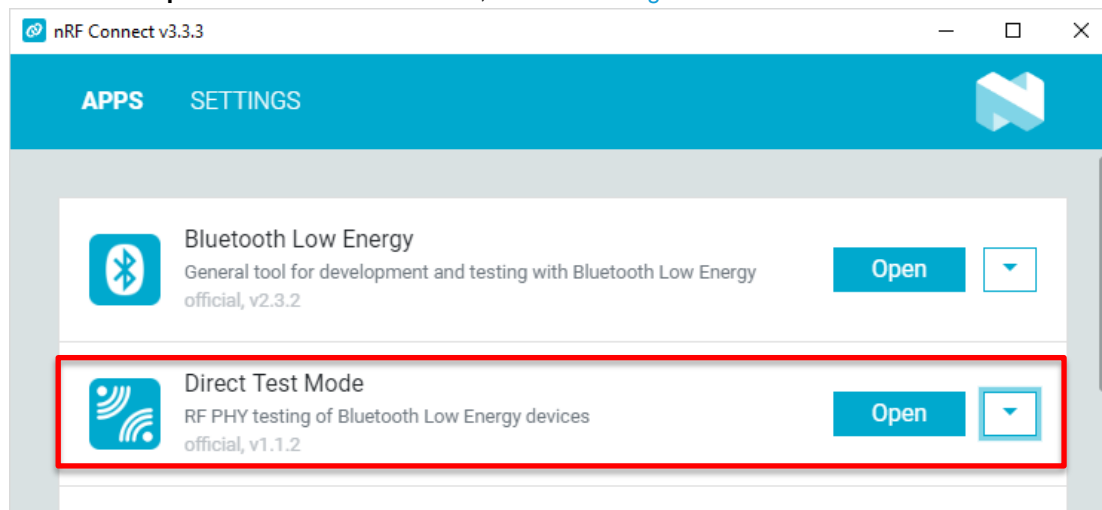

Figure 4: Click **Open** in **Direct Test Mode**
2. Then click **Open** in **Direct Test Mode** tool, as shown in Figure 4.